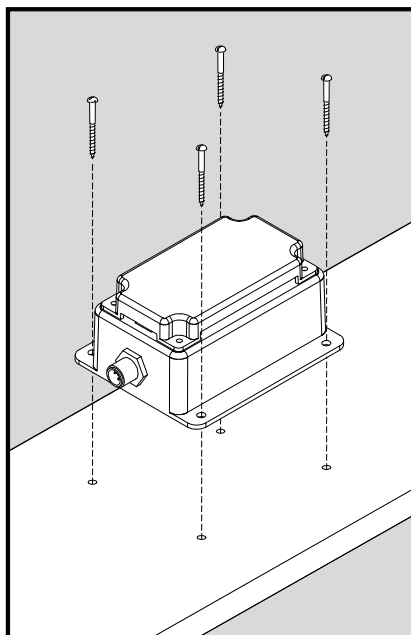

Figure 1 – Mounting the ACM100
| Figure 1 | – Mounting the ACM100 | 3 |
Attach the ACM100 securely to the vessel using the included stainless steel mounting screws or other fasteners as shown in Figure 1 below. Do not use threadlocking compounds containing methacrylate ester, such as Loctite Red (271), as they will cause stress cracking of the plastic enclosure.